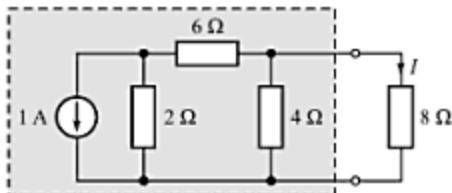

Fig. 4.56
26. Develop a Thevenin's equivalent circuit for the part of the circuit shown in the box in Fig. 4.56. Use this equivalent circuit to find current  $I$ , as shown.